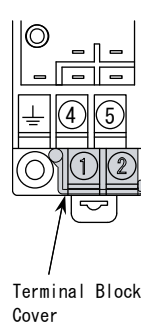

Fig. 1
(1) Loosen the terminal screw.
(2) Insert the tip of a screwdriver bit beneath the washer and push it up to make ample room to receive a cable.
The terminals for power supply connection (① and ②) are covered with a plastic plate for safety (see Fig. 1).